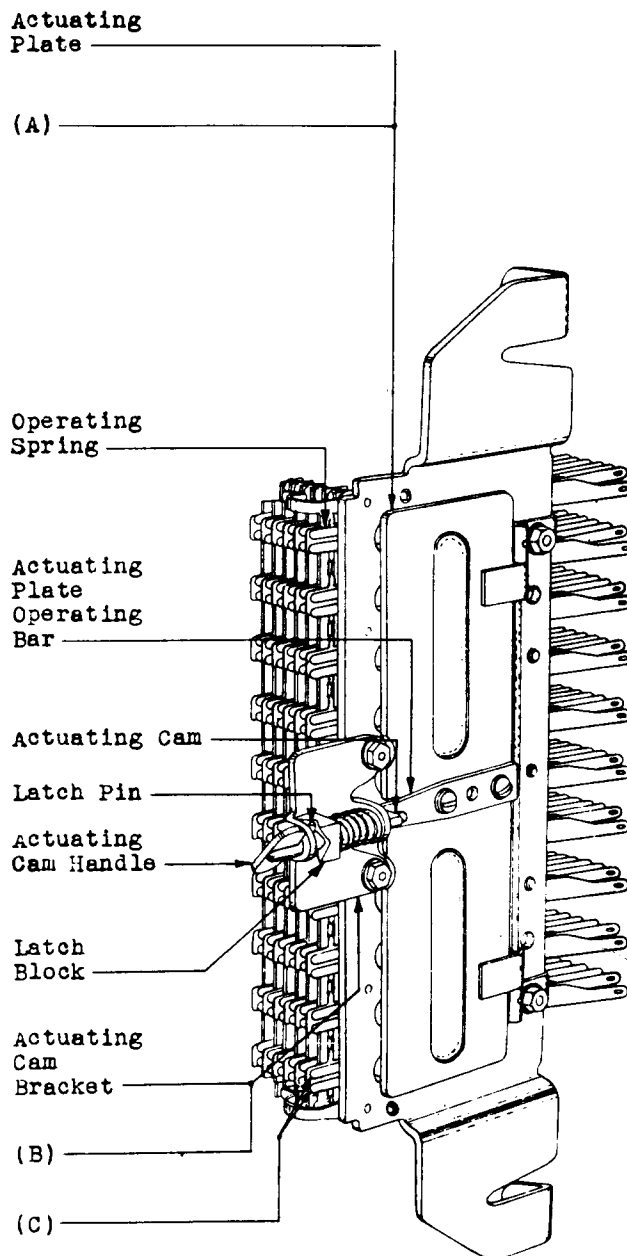

Fig. 1 - No. 216A Switch
(b) Fig. 1 (A) and (B) - The actuating plate and the actuating cam bracket shall be mounted securely on the switch. Gauge by feel.
2.06 Contact Separation - Fig. 1 (C): With the switch in the normal position, the contact separation shall be